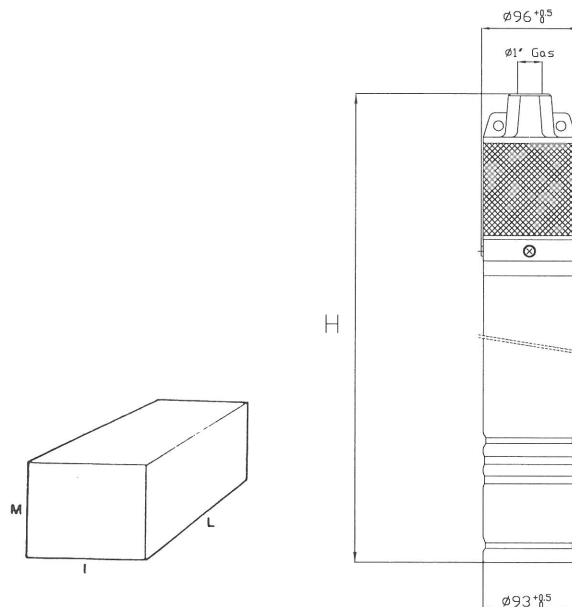

fig. 1 - Abb. 1 - fig. 1
15.1. SCHEMA INGOMBRI ELETTROPOMPA (fig. 1)
15.1. DIAGRAM OF PUMP DIMENSIONS (fig. 1)
15.1. COTES D'ENCOMBREMENT DE L'ELECTROPOMPE ET POIDS (fig. 1)
15.1. RAUMBEDARF DER ELEKTROPUMPE (Abb. 1)
15.1. ESQUEMA DIMENSIONES ELECTROBOMBA (fig. 1)
The electropump is packed in a cardboard box for transport; as its total weight and bulk are not excessive (fig. 1), transport presents no problems. However, check the total weight marked on the box.